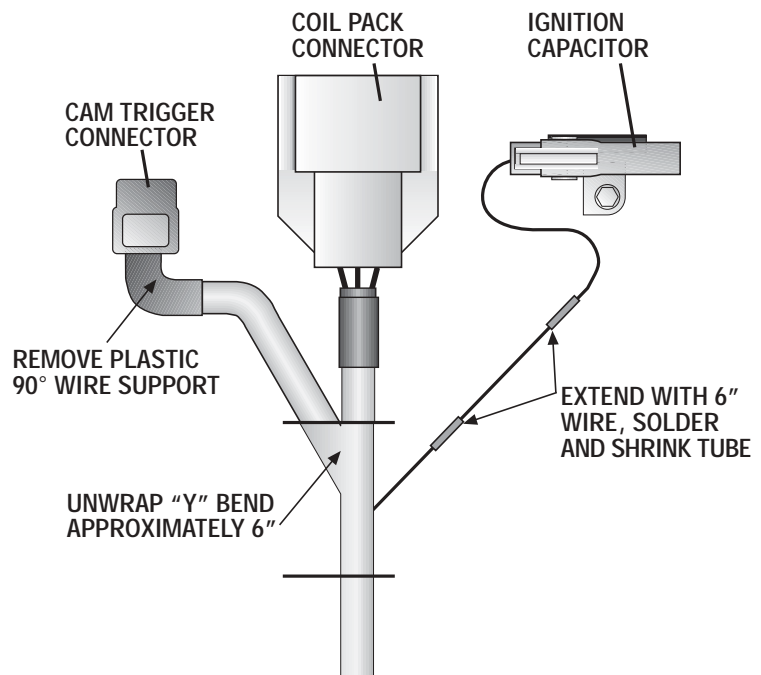

Fig. 7-a
- A. Remove the six allen-head screws on top of the fuel management unit (FMU). (See Fig. 7/1-a.)